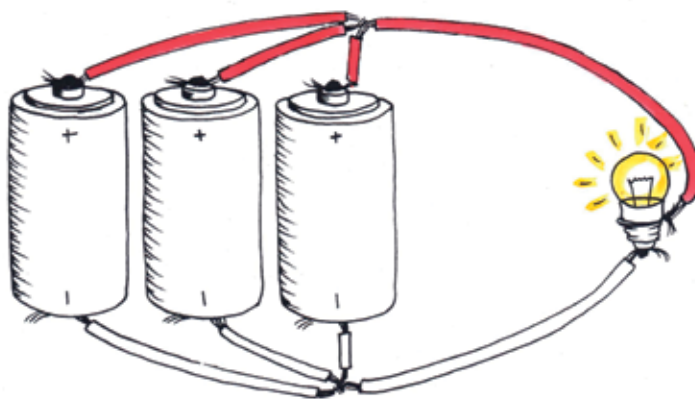

Figure 12: Cells in parallel
1. Compare the circuits in Figures 12 and 13. Each circuit has three cells and one light bulb, but the components are connected differently.